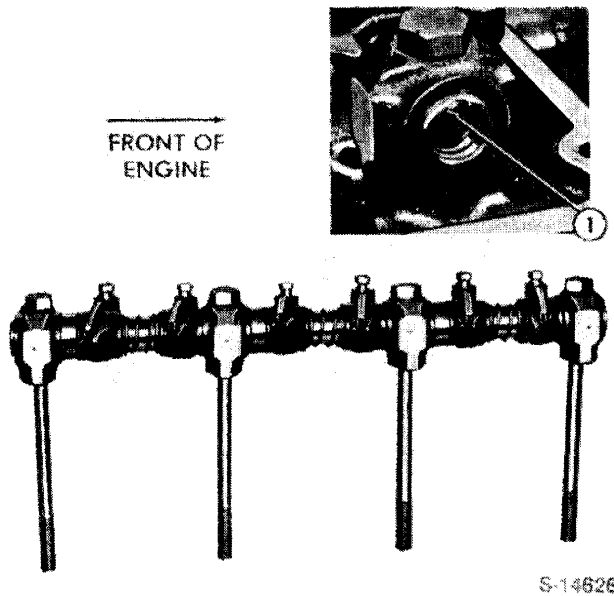

Figure 16
9. Using a telescopic gauge and micrometer, measure the valve to guide clearance, Figure 16. If the clearance exceeds the specified limits, see "Specifications," Chapter 3. Ream the valve guide to fit the next oversize valve.
4. Coat all components with engine oil and position the notch on the front of the rocker shaft upwards to correctly locate the oil holes, Figure 16.